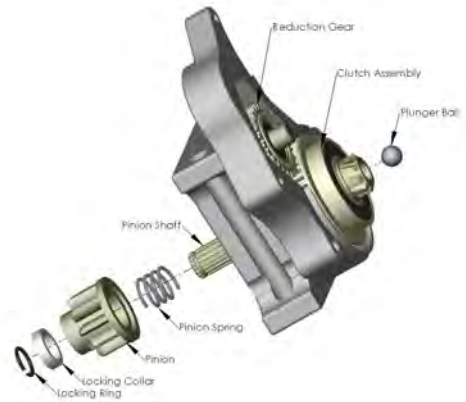

Figure 4
4. Remove the *locking collar*, *pinion*, and *pinion spring* (Figure 4).